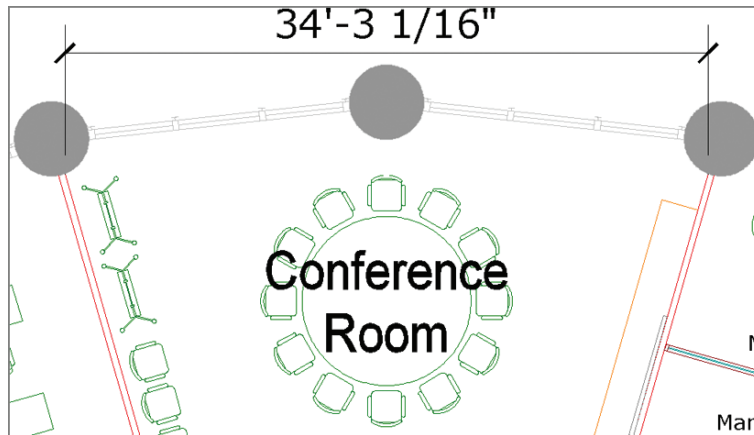

FIGURE 13.8 Moving the $1/16'' = 1'-0''$ (or 1:200 in metric) scale dimension line upward for clarity
5. Select the 1/16" = 1'-0" (or 1:200 in metric) scale button in the Annotation Scale menu on the status bar. A much larger dimension object appears in the drawing canvas. Select the dimension object and, using one of the dimension line grips at either end of the dimension line, move it upward so that the dimension has longer extension lines. Press Esc to deselect. Figure 13.8 shows the result.